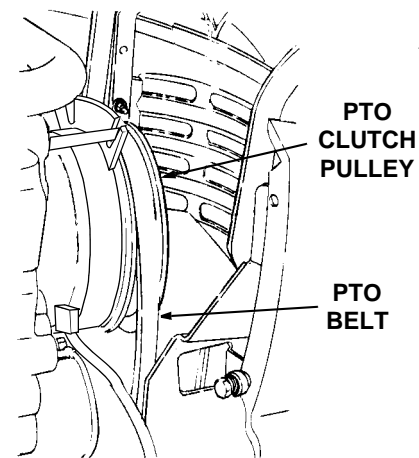

Figure 43
4. Open the tractor hood and remove the forward end of the PTO belt from the PTO clutch pulley on the front of the engine (Refer to Figure 43).